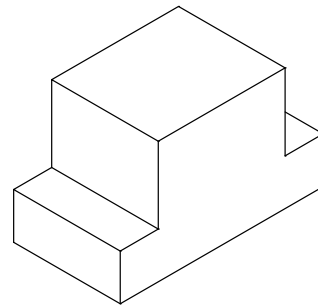

Figure 26-50 Model after subtracting the smaller boxes
13. Change the visual style to Hidden. The model after subtracting the boxes should look similar to the one shown in Figure 26-50.